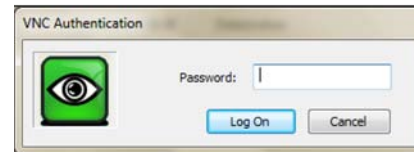

Fig. 4 Screen Password request
- ➡ In the following screen, see Fig. 4, you have to enter the password `Remote` and after this press `Log On`.